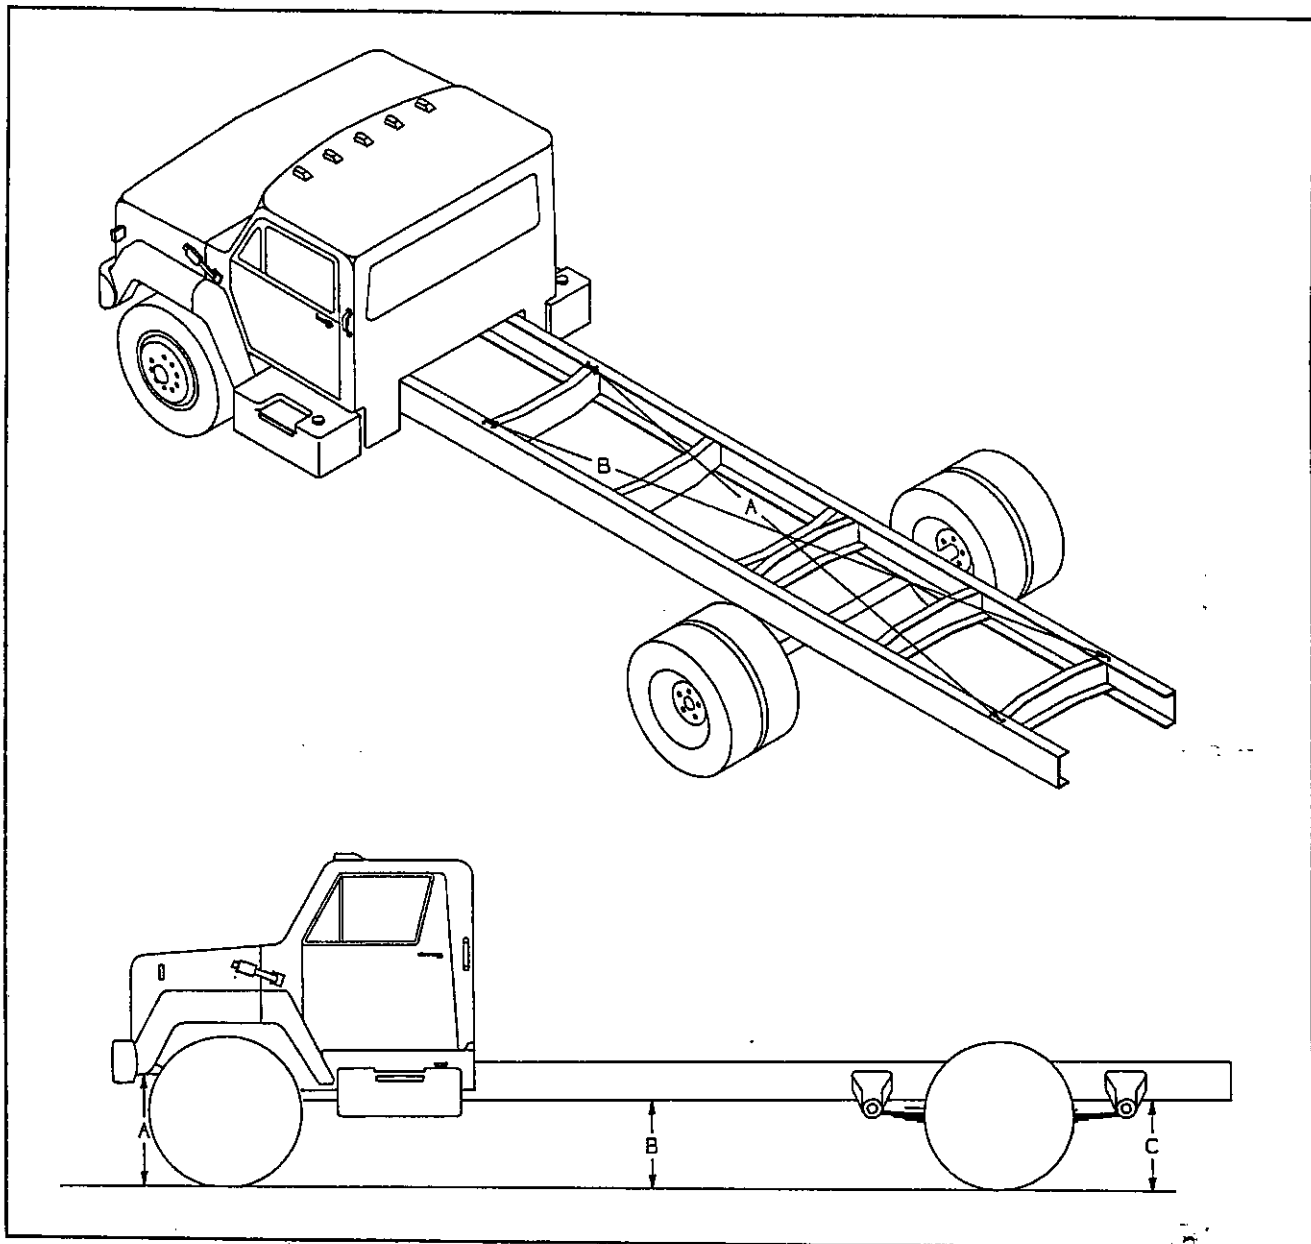

Figure 4-1 Checking Frame Squareness and Ride Height
- b. Check the frame for being square. Measure diagonally from the front of one side to the back of the other side. Locate measurements off of cross member rivets. (See Figure 4-1) Record both diagonal measurements below. Both measurements must be within 1/4" of each other.
c. Check the frame height (ride height). Measure the distance between the frame and the ground on each side of the chassis at 3 check points; (A) just in front of the front axle, (B) 12 inches behind the cab, and (C) just behind the back mounting bracket of the rear axle springs. The measurement of both frames at the same check point must be within 1/4" of each other. (See FIG. 4-1)